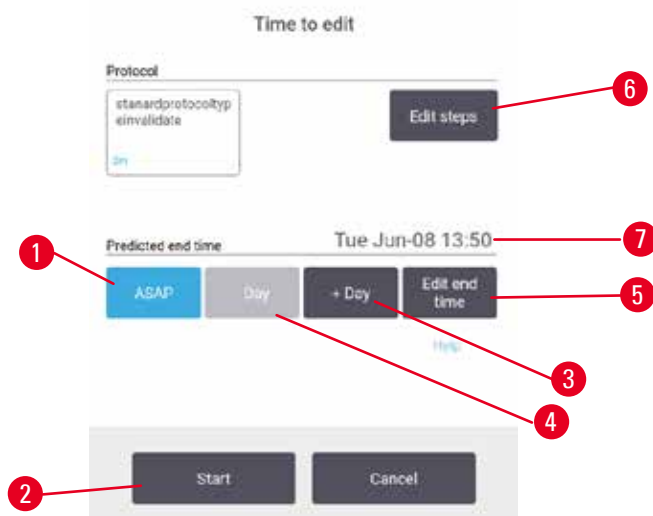

Fig. 53
You schedule a protocol run in the **Time to edit** dialog box (→ Fig. 53). The dialog box opens after you have loaded the protocol, input baskets ID, and input the number of cassettes (→ p. 80 – 5.5.2 Changing the starting step for a single run).
1. Start a protocol run as normal from the **Status** screen and continue until the **Time to edit** dialog box (→ Fig. 53) opens. Tap **Edit steps** (→ Fig. 53-6) to open the **Edit the run steps** dialog box (→ Fig. 55).